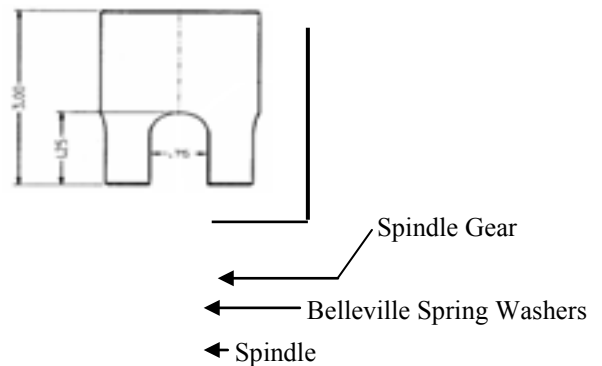

fig. 8
40, 53, 56, 80 To remove retaining ring (80) from spindle (53) use service fixture 61-30-0290. Note: Spindle gear / clutch gear (40) must be compressed against Belleville spring washers (56) before retaining ring can be removed. (see fig.8)